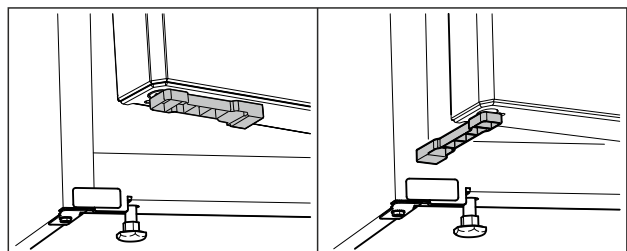

Fig. 61 \*
- Turn door spacer by 90°. (see Fig. 61) \*